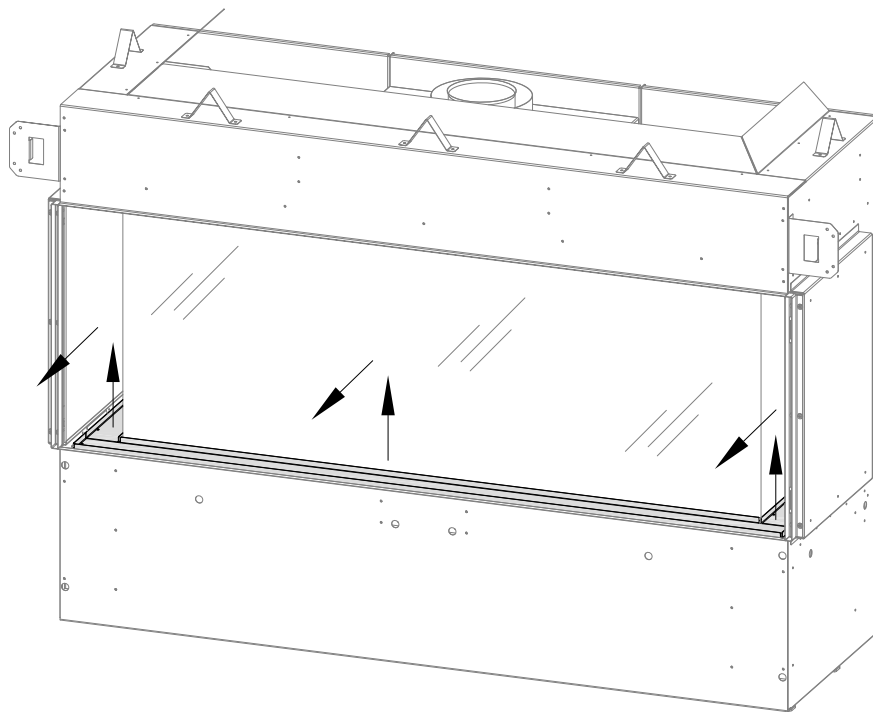

Figure 7.3 - Removing Exterior Media Tray
1. After the safety screen is removed locate the (2) sheet metal screws that secure each side media tray and the front media tray. See Figure 7.3. Ensure the media trays are pushed up against the firebox glass so there is a gap between the media tray and screen / outside edge of the fireplace.
1. Remove the exterior media tray by lifting it up and out of the slot it is installed. See Figure 7.3.